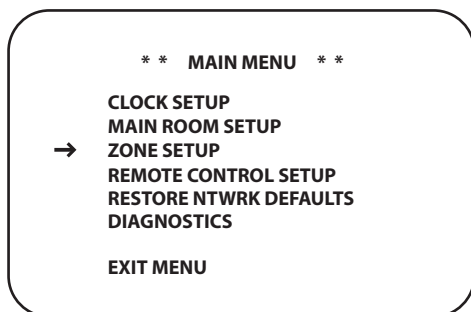

Figure 58.
3. Press the **MENU Button 44** on the remote. The MAIN MENU will appear (**Figure 58**).